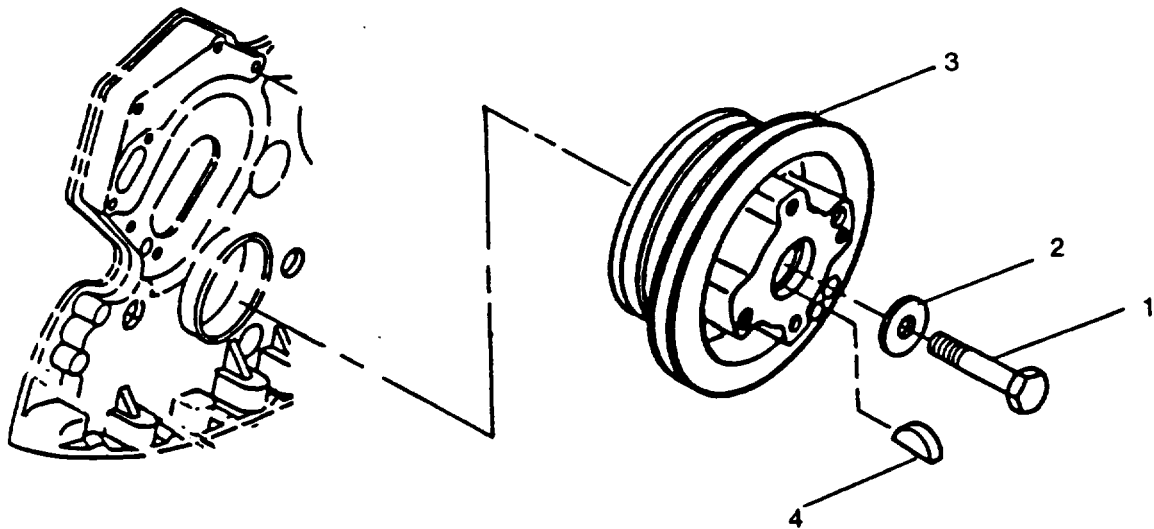

FIGURE 3-126. Crankshaft Pulley
- c. Remove capscrew (1, FIGURE 3-126) and washer (2) securing crankshaft pulley (3).
- d. Using suitable puller, remove pulley (3) from crankshaft. Remove key (4).
- a. Install key (4, FIGURE 3-126) in crankshaft.
- b. Install crankshaft pulley (3) on crankshaft and secure with capscrew (1) and washer (2). Tighten capscrew to 110 ft-lbs (150 Nm)